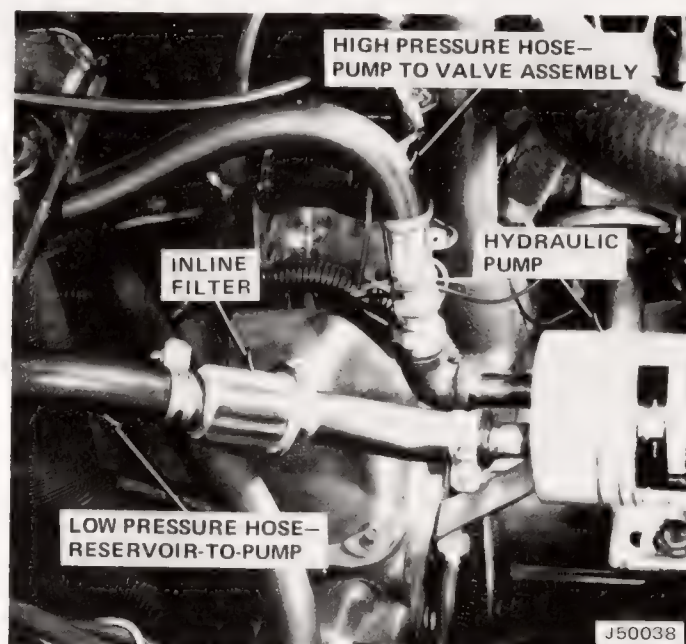

Fig. 1-56 Hydraulic Pump Connections
(8) Install nipple, elbow, and coupling assembly to hydraulic pump (fig. 1-56).
(9) Install low pressure (return) hose from lower outlet on reservoir to lower connection on hydraulic pump. Secure with hose clamps.
(10) Cut hose and install in-line filter. Secure with hose clamps (fig. 1-56).
(11) Install high-pressure hose assembly from coupling on hydraulic pump to inlet connection on